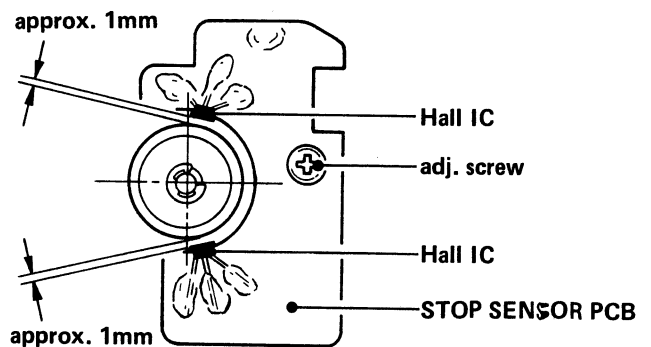

Fig. 4-8
1. Adjust by moving the STOP SENSOR PCB ass'y (9) so that the clearance shown in Fig. 4-8 is approximately 1 mm.